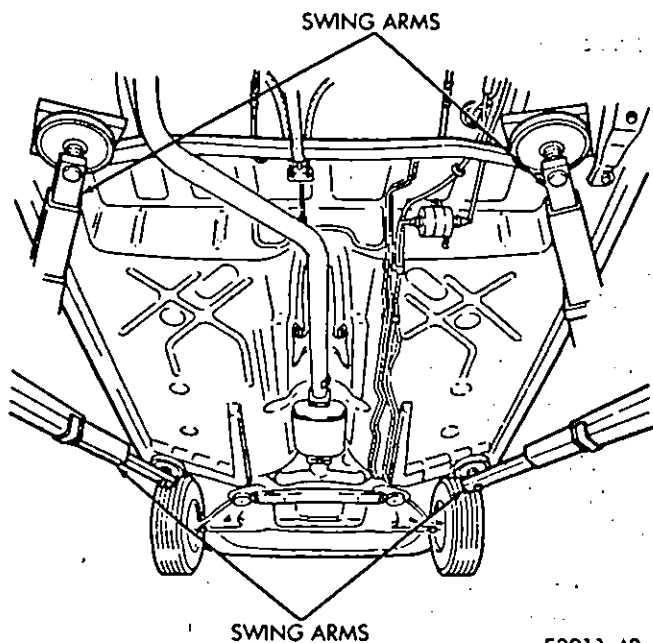

Fig. 2—Side Mounted Swing Arm Hoist
(1) Position the vehicle on a swing arm hoist. Position the arms under the vehicle on the points shown (Fig. 2).
(2) Disconnect the battery negative cable.
(3) Disconnect the EGR tube from the right hand side exhaust manifold. (If so equipped).
(4) Raise the vehicle on the hoist.